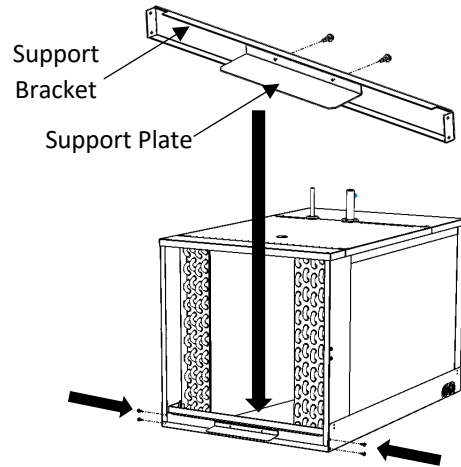

Fig 5C-2. Mount Support Bracket & Plate
3. For Style 1 (Coil cabinet is same height as furnace) – 3"x21" plate is provided to secure the mounting of furnace and coil cabinet. See Fig 5C-3A.